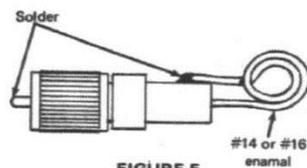

FIGURE 5
8. Connect a 2 turn loop (Fig. 5) and couple the grid-dip oscillator (GDO) near the loop. Check the resonant frequency of each driven element for each band, verifying the GDO frequency against the station receiver.